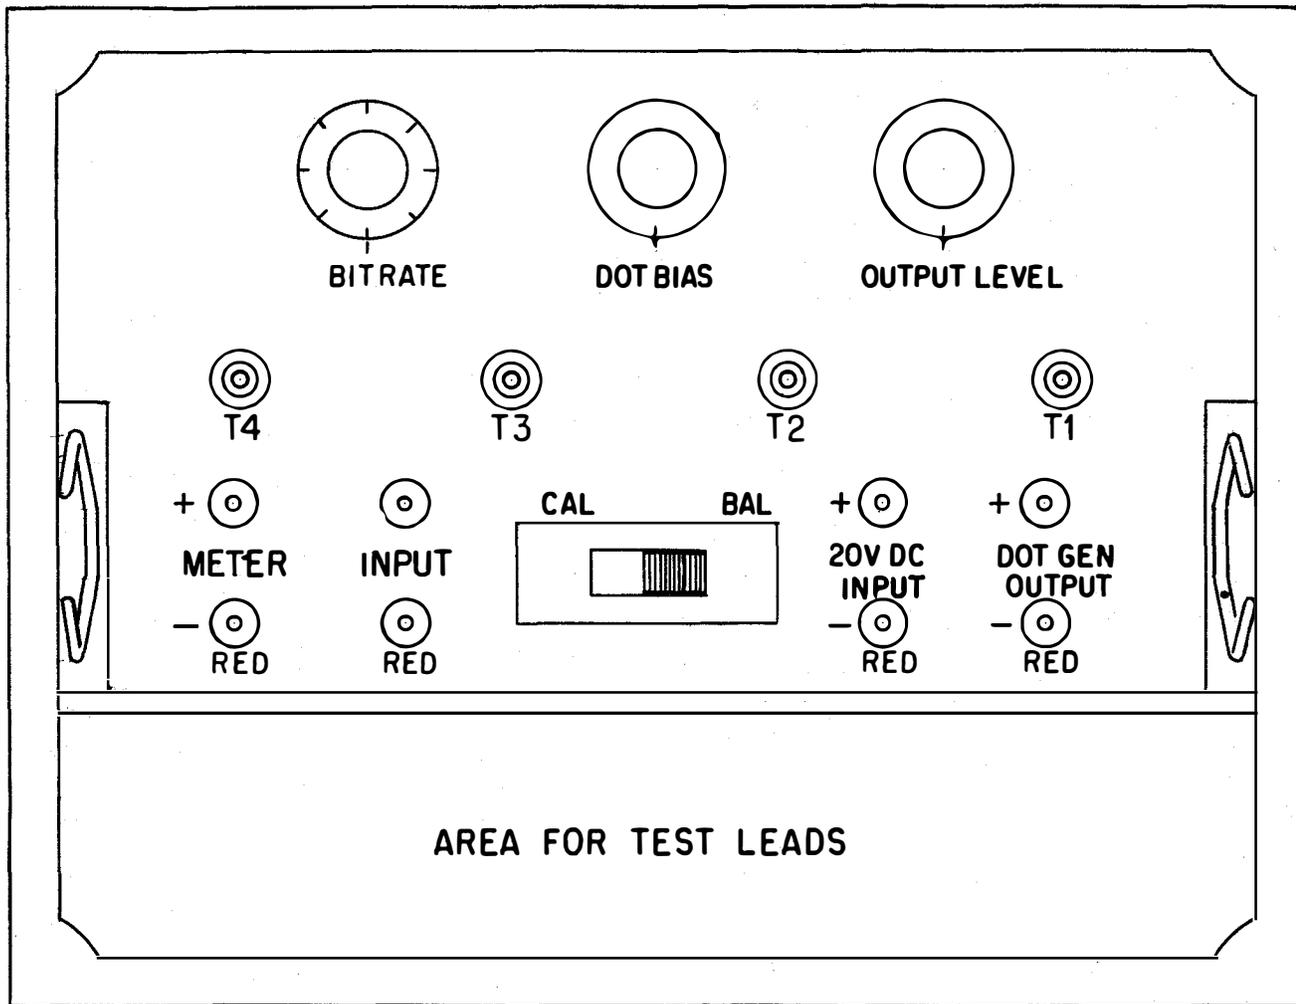

Fig. 1 — Panel of Dot Generator and Measuring Set
**1.02** The Dot Generator and Bias Detector portions of the test set are two separate circuits. They are merely installed in a single box for convenience. The over-all size of the instrument is approximately 6-3/4 by 5-1/4 by 2-3/4 inches. Fig. 1 shows the layout of the panel face.
**2.10** The Bias Detector circuit (right side of Fig. 1) serves to measure the signal bias or the difference in length of the positive and negative portions of the signal.